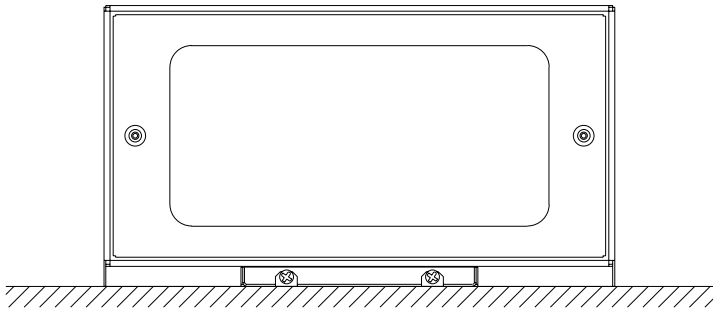

Figure 6
- Mount luminaire to mounting plate by sliding from top to bottom over plate. See Figures 6 & 6A. **IMPORTANT: Luminaire door cannot be positioned facing up in wet location applications!**
- Tighten 2 clamp screws evenly. See Figures 6 and 6A.